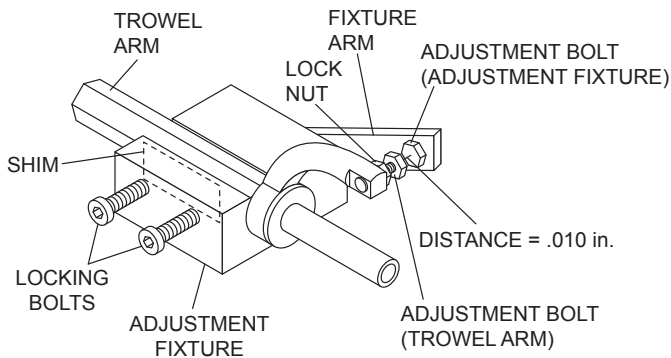

Figure 3. Trowel Arm Adjustment
5. Unscrew the locking bolts on the adjustment fixture and place the trowel arm into the fixture channel as shown in Figure 3. A thin shim may be required to cover the blade holes on the trowel arm. Make sure to align the trowel arm adjustment bolt with the fixture adjustment bolt.